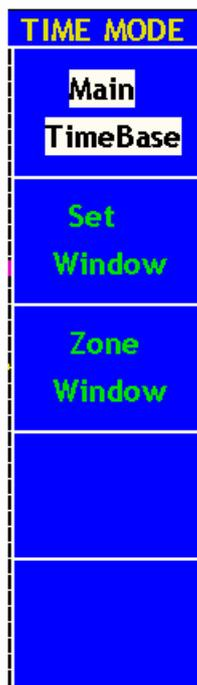

Fig. 5-14 Time Base Mode Menu
3. **HORIZONTAL MENU** button: with this button pushed down, the screen shows the operating menu (see Fig. 5-14).